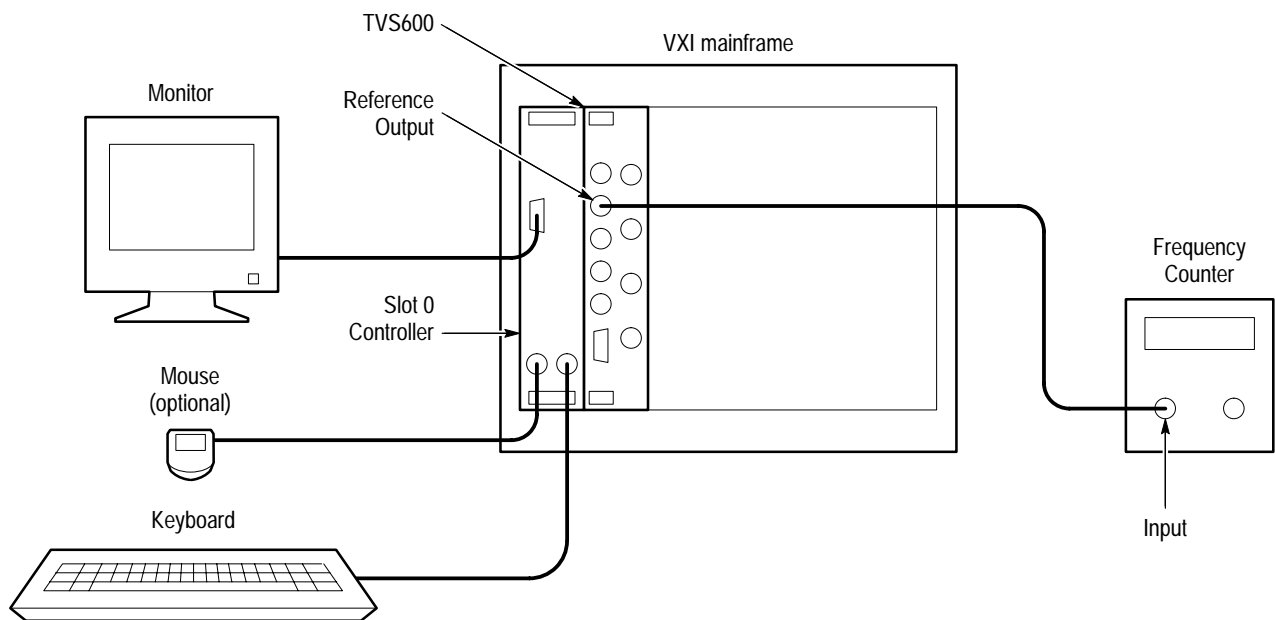

Figure 1–4: Time Reference Test Setup for Functional Tests
1. Connect a coaxial cable from the frequency counter input to the REFERENCE OUTPUT connector (see Figure 1–4).